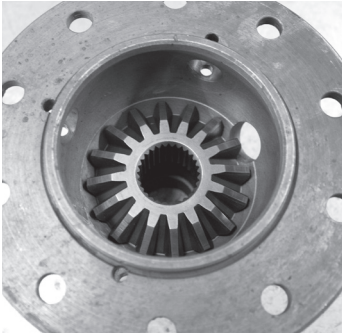

Figure 3-D
- Install the first side gear into the carrier case, without the thrust washer. *Figure 3-D*